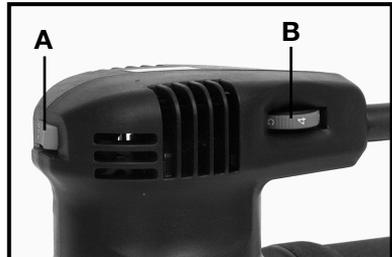

Fig. 1A
Model 333VS is equipped with a variable speed control. Operating speed is adjustable between 5000 OPM (Orbits Per Minute) and 12000 OPM. Adjust speed by turning thumbwheel (B) Fig. 1A. Thumbwheel position #1 provides the slowest operating speed (5000 OPM) and position #6 the fastest (12000 OPM). Speed may be changed while motor is running or while it is stopped.